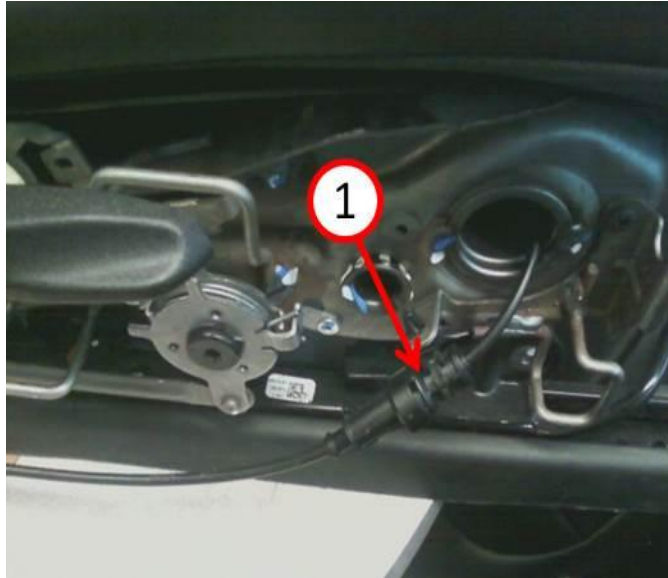

Fig. 1 Locate the Cable
3. Locate the cable adjuster (1) on the outboard side of the seat (Fig. 1).